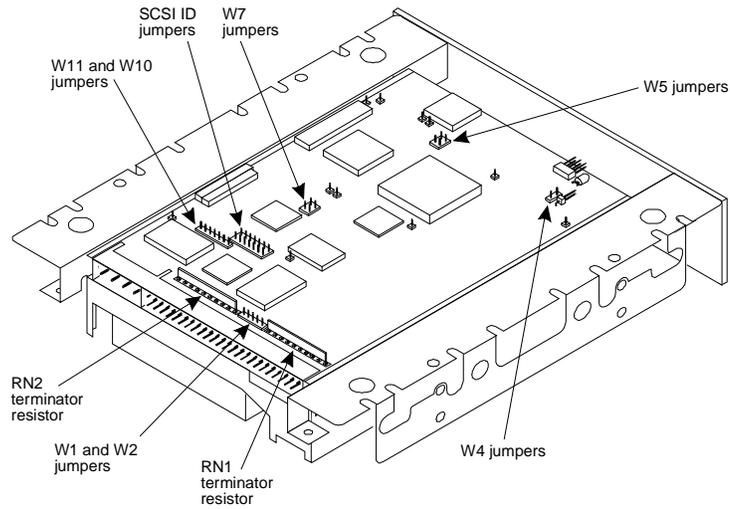
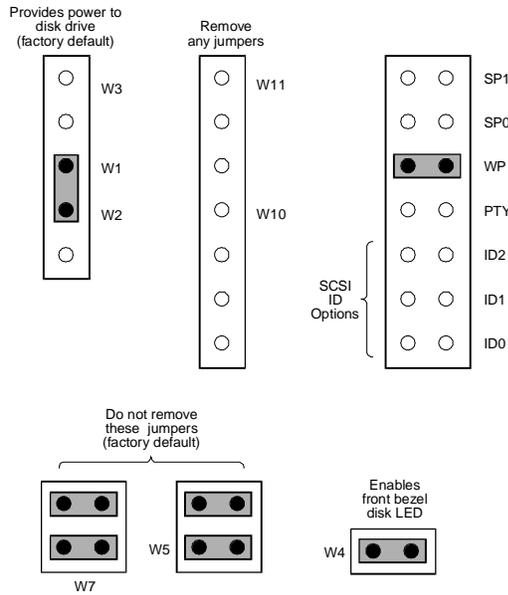

Figure B-15. Jumper Locations on the 1.7-Gbyte SCSI Hard Disk Drive (Comcode 407071950)
Figure B-16. Jumper Settings for the First 1.7-Gbyte (Comcode 407071950) SCSI Hard Disk Drive Installed; Drive 0
13. Place the defective hard disk drive on an ESD-protected work bench. Loosen and remove two Phillips head screws on each side of the drive to release it from the mounting brackets. These screws are shown as Item(s) 8 in Figure B-16 (Position 3 drive) or B-17 (Position 4 drive).
- n Figure B-15 shows the location of the jumpers on the 1.7 Gbyte SCSI hard disk drive (Comcode 407071950). Figure B-16 and Figure B-17 show the jumper settings.